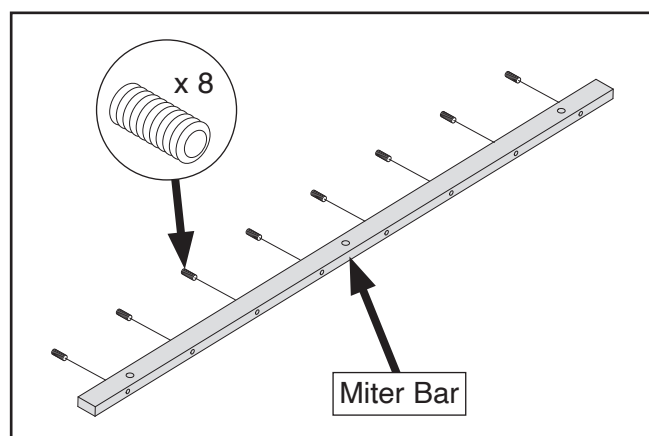

Figure 4. Installing slotted set screws into miter bar.
4. Thread (8) 10-32 x $\frac{5}{8}$ " slotted set screws into miter bar (see **Figure 4**).